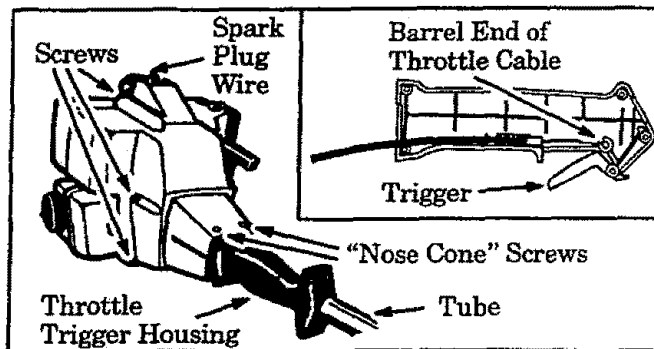

Figure 22
1. Disconnect spark plug wire. Figure 22 .
3. Remove the barrel end of the throttle cable from the trigger. Figure 22 (inset).
25. Install the barrel end of throttle cable in the trigger. Figure 22 (inset). Reassemble throttle trigger housing onto the tube. Tighten screws securely.